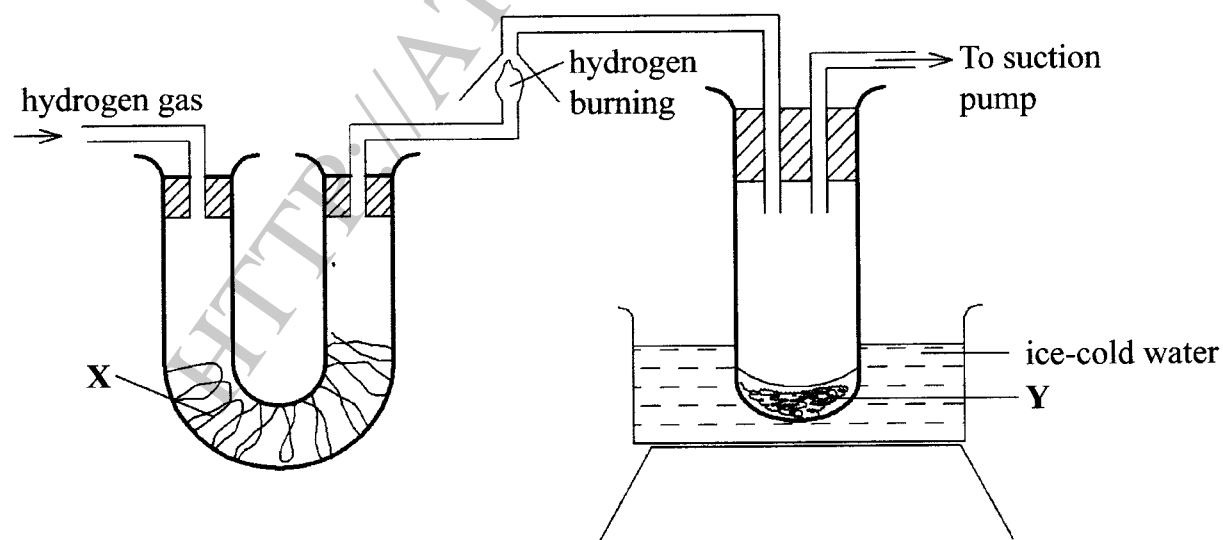

Figure 3
- (b) **Figure 3** shows the apparatus used to burn hydrogen in air. Use it to answer the questions that follow.